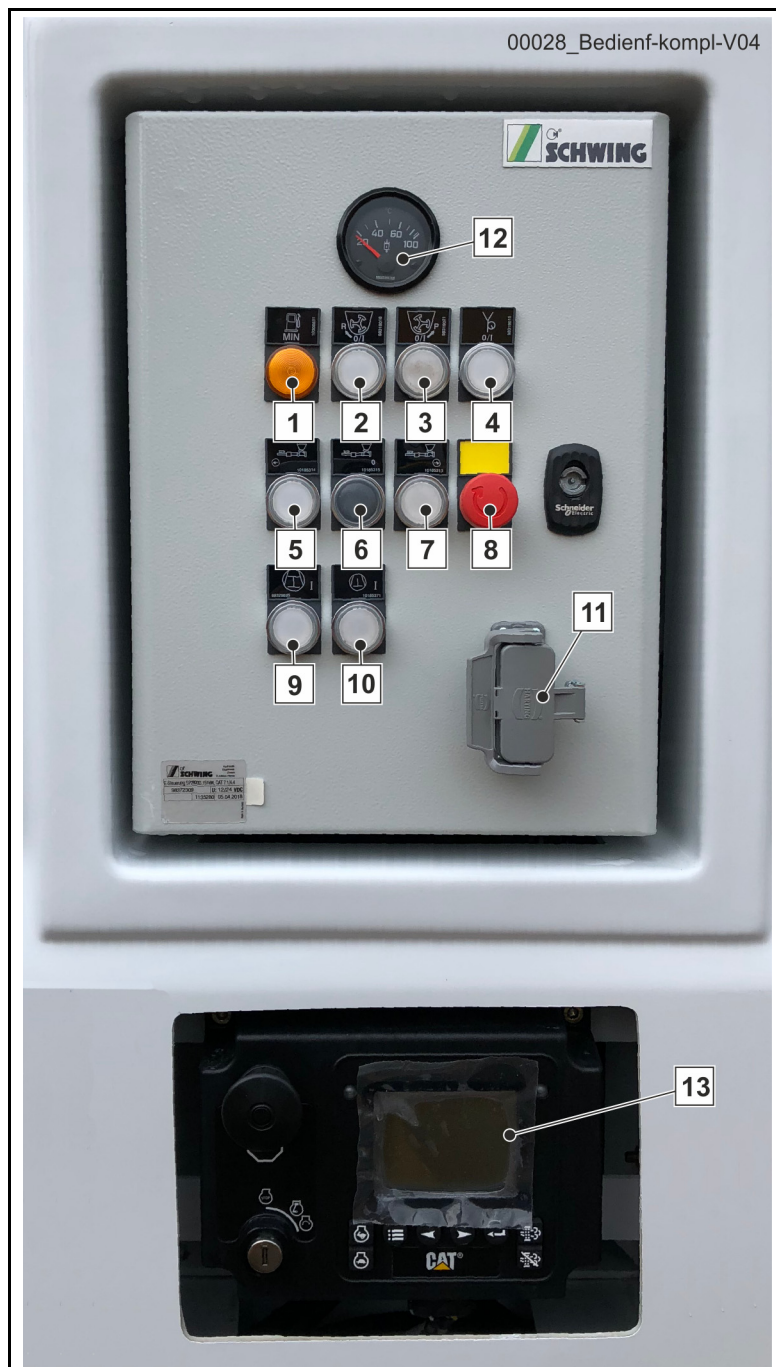

Fig. 11 Concrete pump control
Connect the cable remote control to the power outlet (11) (**Fig. 11**).
Caption (Fig. 11 Concrete pump control)